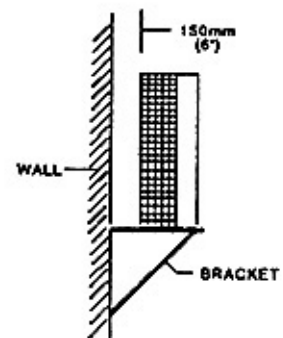

FIG. 5 WALL MOUNTING
2) MOUNTING ON WALL: The bracket is to be locally procured (Fig. 5) and with orientation as per Fig. 2 or Fig. 3.